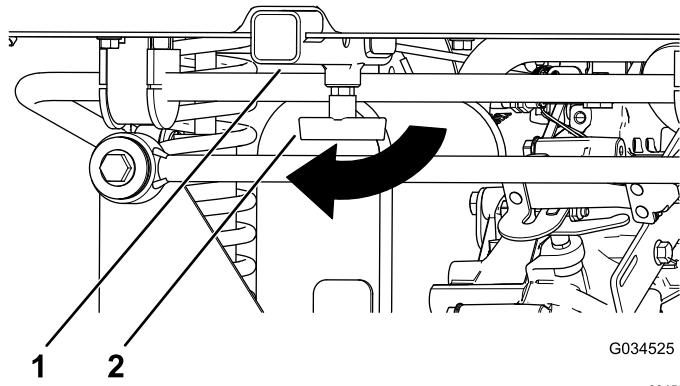

Figure 16
1. Loosen the "T" handle by rotating it clockwise (Figure 16).
2. Insert your accessory into the receiver until the holes align (Figure 16).